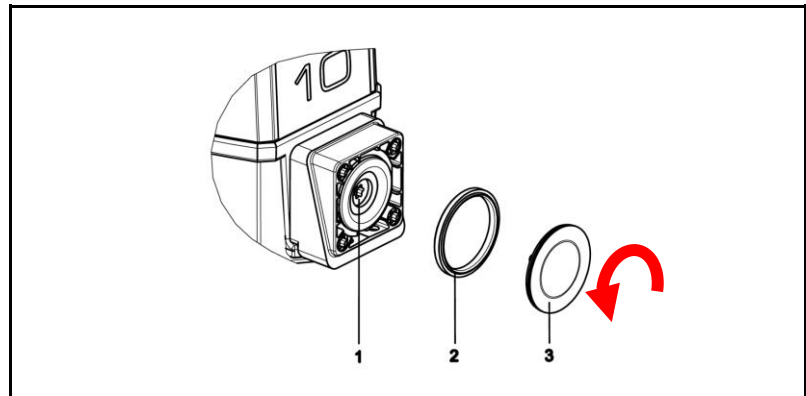

Fig. 56: Replacing the pump diaphragm
3. Lift pump membrane (3) at opposite side edges, grip and screw out by turning anticlockwise (see arrow in Fig. 56)